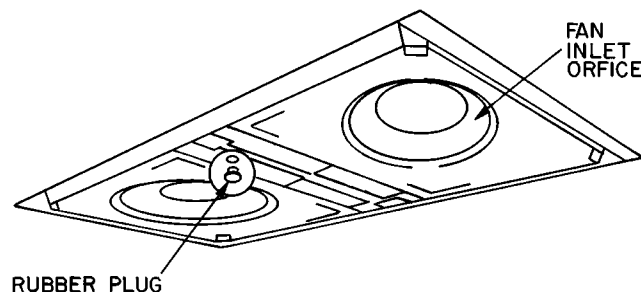

Fig. 19 – Drain Plug
2. Remove the air intake and distribution assembly. Remove the condensate water in the drain pan by pulling out the rubber drain plug (Fig. 19) and letting water drain into a 3-gallon bucket.
4. Re-install the drain pan using the appropriate number of screws. Center and align the metal fan inlet orifice (Fig. 19) with the fan. Ensure the fan spins freely.